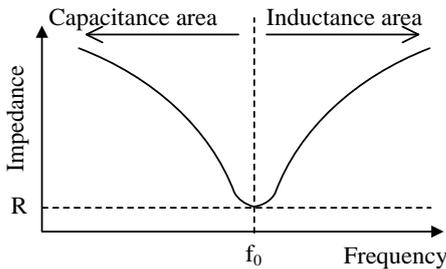

Figure 8-2. Impedance of Resonant Circuit
When the frequency, f, changes, the impedance of resonant circuit will change as shown in Figure 8-2.
When 2πfL = 1/2πfC, Ż of Equation (2) becomes the minimum value, R (see Figure 8-2). In the case, ω is calculated by Equation (3).